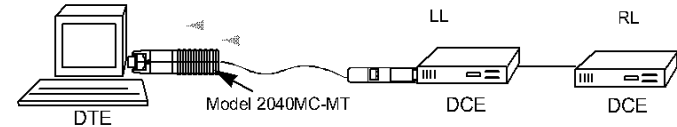

Figure 10. Local Loopback and Remote Loopback Modes
The Model 2040 supports two loopback modes that may be used to evaluate the condition of the communication links. These modes, (Local Loopback (LL) and Remote Loopback (RL), are always **initiated by the signals on the DTE device** (See Figure 10). This section describes both loopback modes.